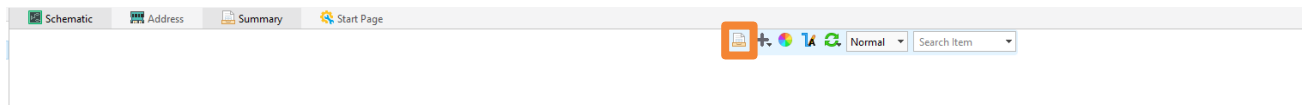

Figure 2.79. Summary Button
- Summary button (Figure 2.79): switch to summary page.